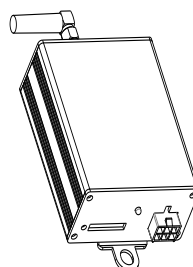

Fig.28
5.5 GSM remote controller (Fig.28)